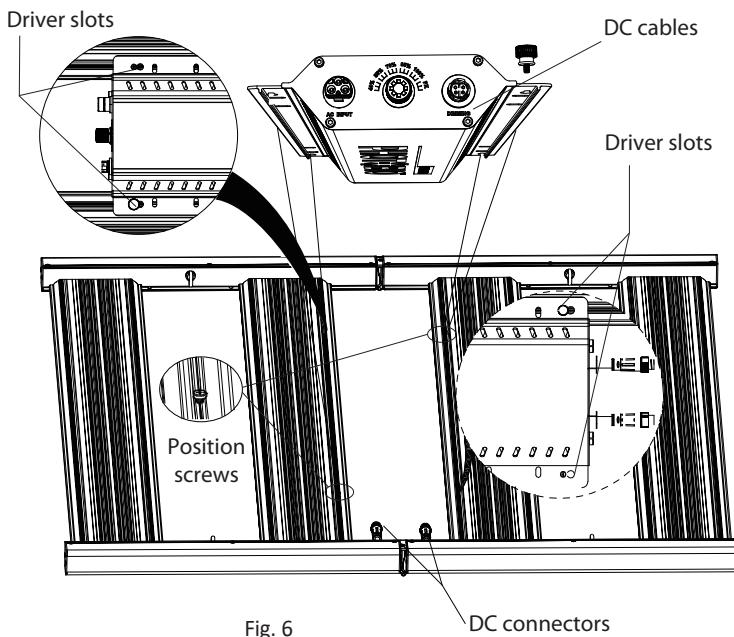

Fig. 6
a. Place the driver on the track in the center of fixture (see Fig. 6). Driver orientation should be logo down. Face driver's DC cables' end to the DC connector side of fixture, as Fig. 6.